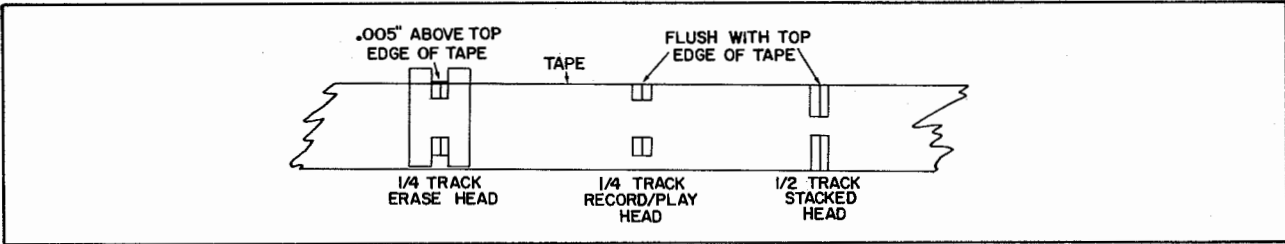

Fig. 5. Relationship of Head Pole Piece with Tape.
1. Visual Adjustment—Loosen the head mounting nuts. Adjust the head height so that the top of the top pole piece is even with the top edge of the tape. (See Fig. 5.) As a check, use an unrecorded tape to record a signal on track 1. Rewind the tape. Then record a signal on track 3.
Adjust the height of the erase head (left head) so that the top of the pole piece is barely visible (0.005 inch) above the top edge of the tape. (See Fig. 5.)
Adjust the stacked 1/2-track stereo head (right head) so that the top of the top pole piece is even with the top edge of the tape. (See Fig. 5.)